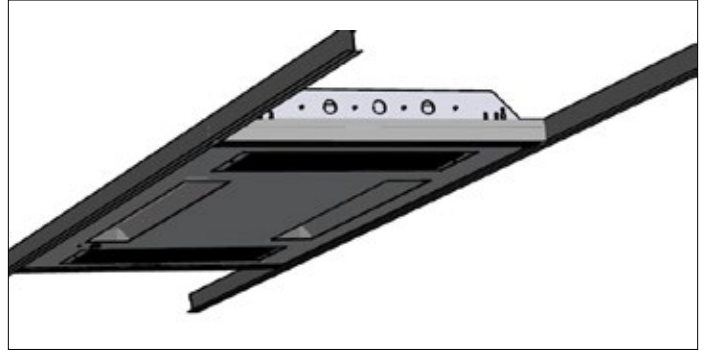

Fig. 13
13. Lift up Cleanse Troffer Retrofit fixture and close it. You should hear the latches 'click' closed. Press up in the latching corners to ensure both latches are secured. (See Fig. 13)